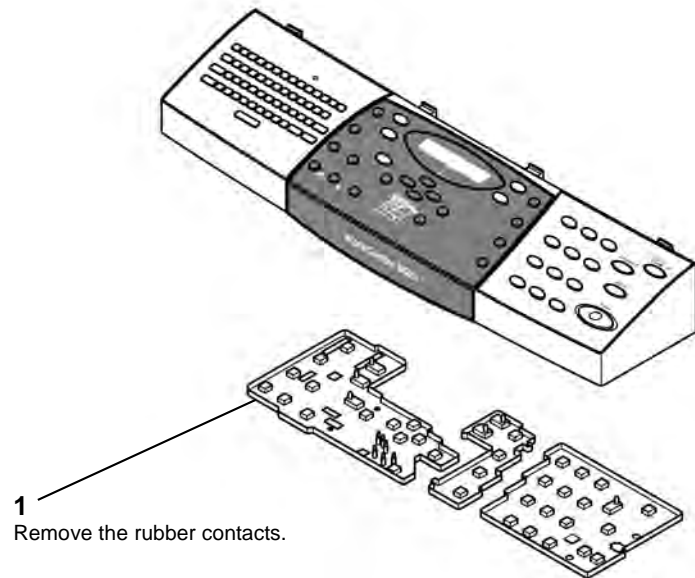

Figure 3 Rubber contacts removal
4. Remove the rubber contacts, Figure 3.